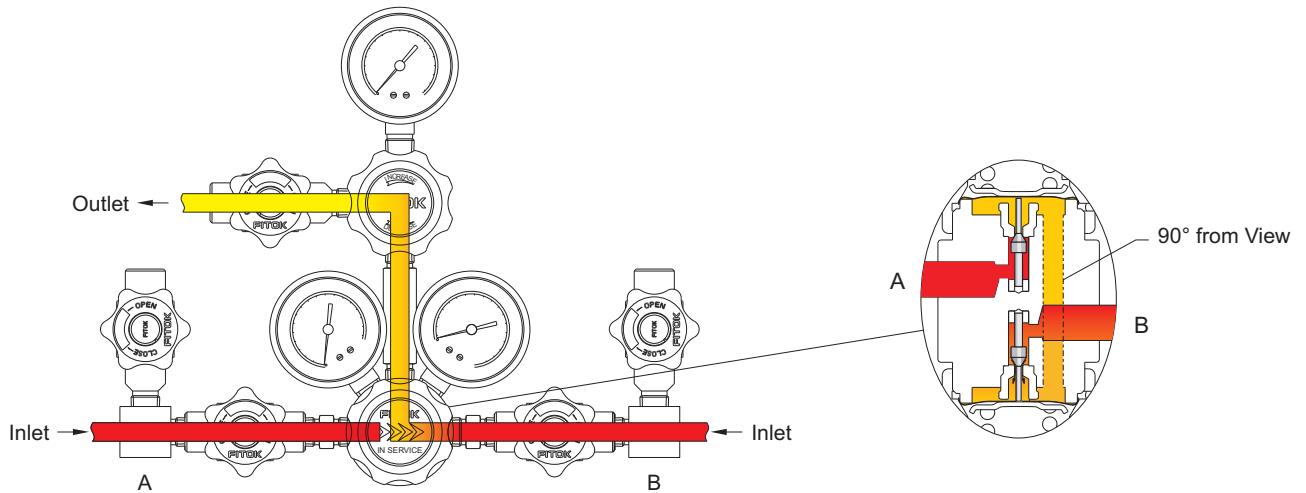

Fig. 1
*Fig. 1* When the "In Service" arrow is pointing at side B, side B would be the gas source. At this time, the fixed outlet pressure of side B is higher than the set pressure of side A. Consequently, the diaphragm of side A regulator moves to enable the stem to close the regulator.